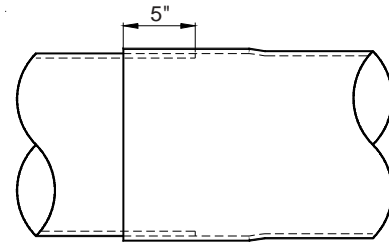

Figure 5A
6) Apply a generous amount of PVC cement to the inside of the belled end, and the outside of the male end, and slide together, 5" deep. **See Figure 5A.** Continue for all sections of 8" pipe.